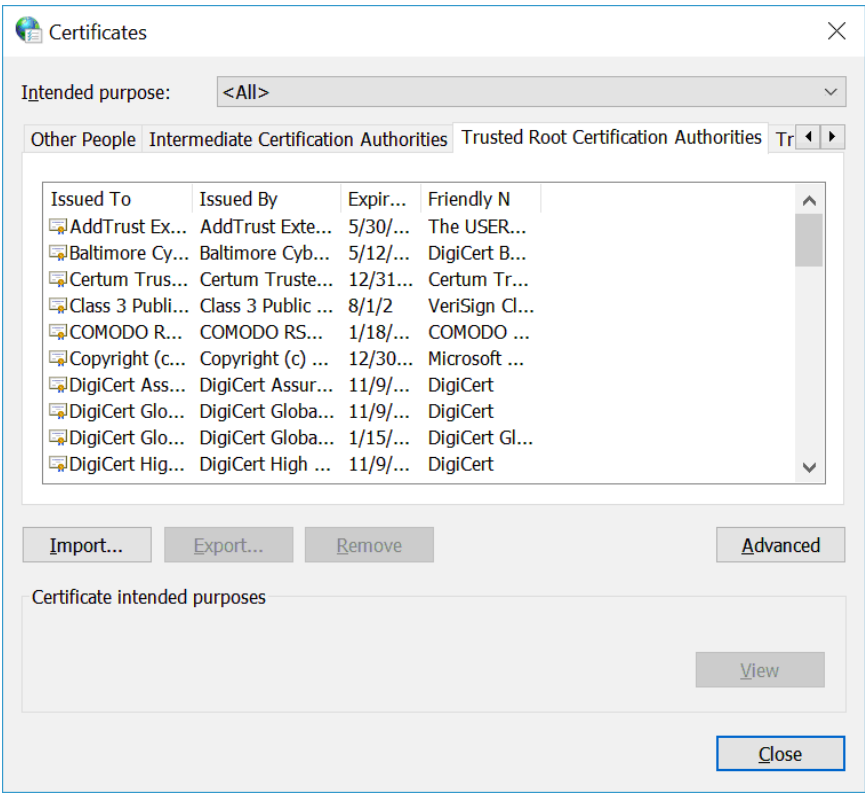

Figure 337: Certificates Screen
3. Click on the Certificates button. The Certificates screen displays. Click on the Trusted Root Certification Authorities tab, as shown in Figure 337.